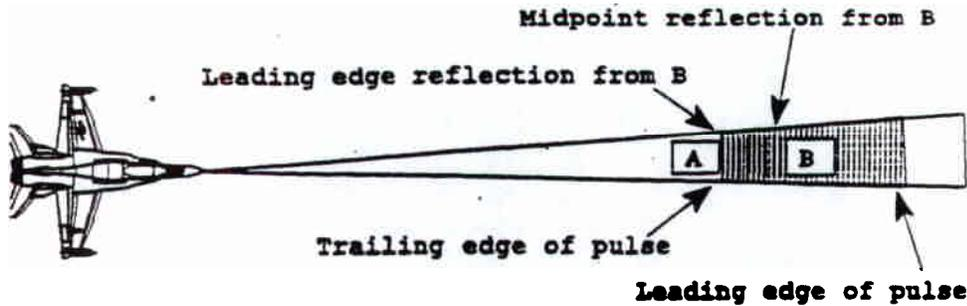

Figure 9
(2) In figure 9, as reflections caused by the leading edge hitting the near side of building B were traveling back to the radar, the trailing edge of the transmission was still traveling to the far edge of building A. The reflection from the leading edge of the pulse hitting the near side of B is now coinciding with the last reflection (due to the trailing edge) from building A.